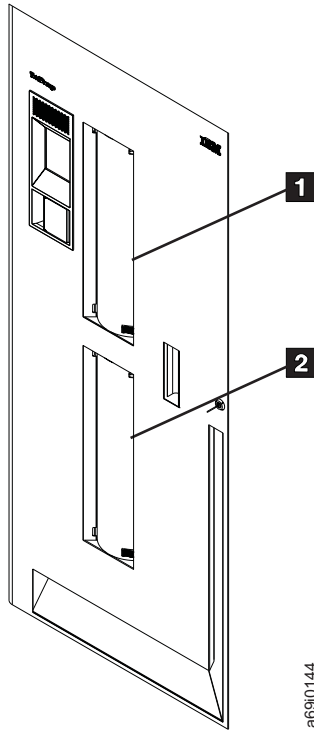

Figure 11. Storage slot addresses in the I/O stations of the 3584 Tape Library. The door of a Model L22 or L52 frame is shown.
- An I/O slot address of F01,R05 means frame 1, slot 5 (fifth row from the top of the upper I/O station; see **1** in Figure 11 on page 32).